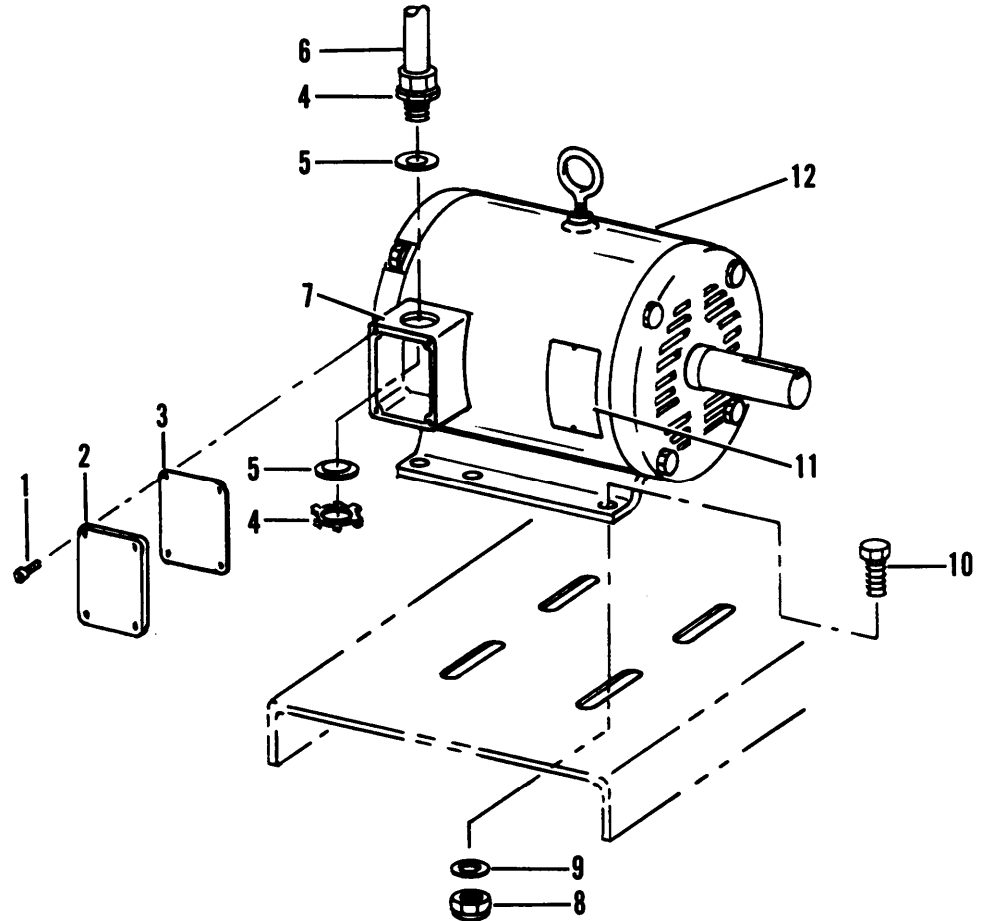

Figure 4-4. Motor assembly
a. Inspection/Test. Turn ON-OFF switch on motor control box to OFF position. Turn main power source off. Remove four screws (1, fig 4-4) securing the motor conduit box lid (2) to the conduit box (7). Remove the lid (2) and gasket (3). Inspect the motor lead connections with nameplate (11) on side of motor. These connections shall be for 230 volts, three phase, 60 hertz. Examine leads for evidence of shorts or grounds and for burned lead insulation. Open motor control box door and check for proper connection of motor leads to starter terminals. Refer to figures 4-1 and 1-2. Remove cover of pressure switch and examine for loose connections and for defective switch. If all wiring connections are secure and correct, wires or switch are not damaged, and motor still does not operate, the motor assembly shall be replaced.
- (1) Install motor assembly (12, fig 4-4) on air receiver and reassemble the four mounting screws (10), flat washers (9), and locknuts (8) but do not tighten hardware until drive belts are installed and pulleys are aligned.
- (3) Reconnect conduit (6, fig 4-4) to conduit box (7) with two conduit reducing washers (5) and connector (4).
Legend for fig 4-4 :